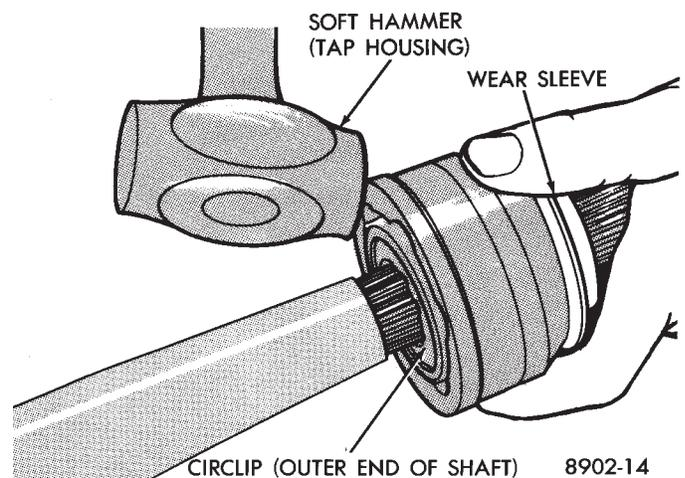

Fig. 2 Remove Joint from Shaft .
(2) Wipe away grease to expose joint.
(3) G.K.N. Remove outer C/V Joint from shaft by supporting the interconnecting shaft in a vise. **Use protective caps on the jaws of the vise to prevent damage to the interconnecting shaft.** Give a sharp tap to the top of housing to dislodge joint from internal circlip installed in a groove at the outer end of the shaft (Fig. 2).